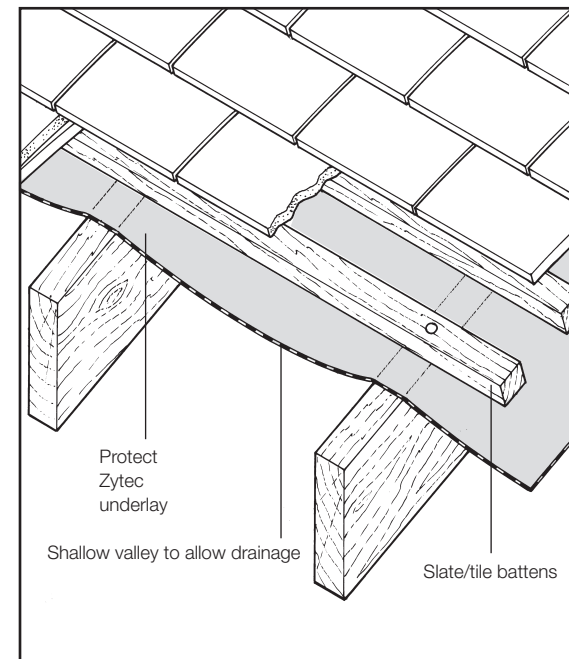
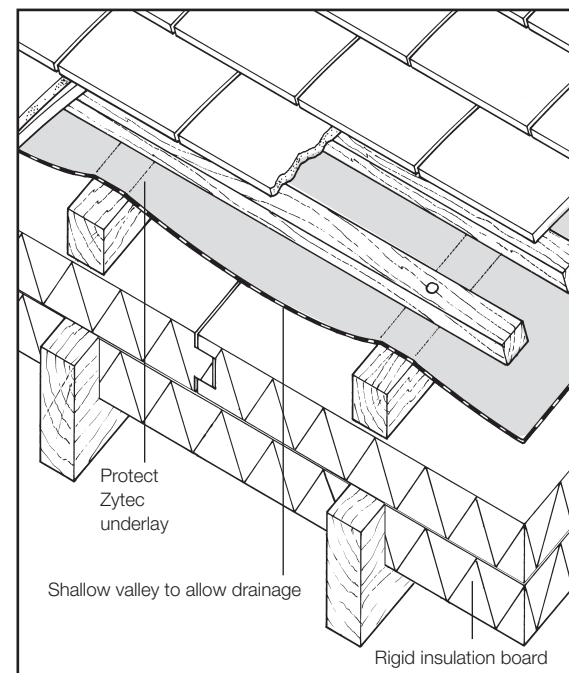
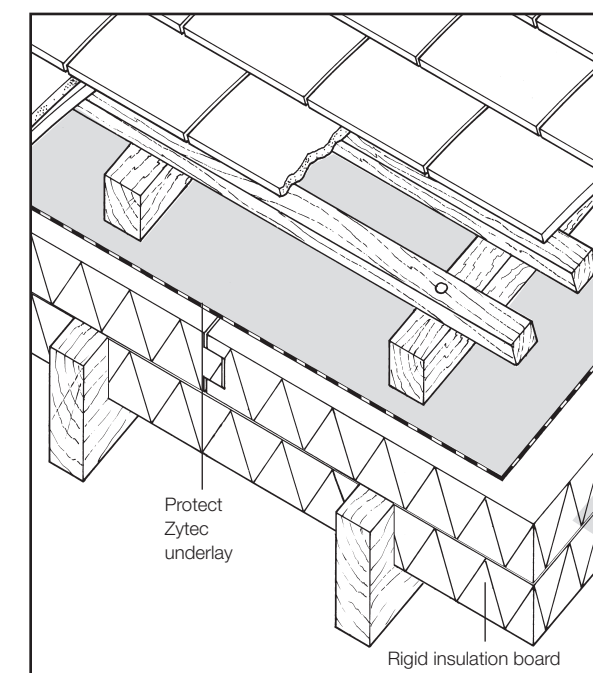

Fig 1
Fig 3
Fig 4
- Protect Zytec vapour permeable underlay may be used for cold roofs with ventilated or unventilated loft spaces (see Figs 1 and 2) or warm roofs with insulation between and or above rafters (see Figs 3 and 4).
If the ceiling is well sealed, as defined in BS 5250, condensation can be controlled by the use of Protect Zytec with no additional ventilation. Protect Zytec can be laid draped unsupported (see Fig 3) or fully supported on insulation (see Fig 4). To ensure the integrity of a well sealed ceiling, a separate vapour control layer such as Protect VC Foil must also be used on the warm side of the insulation.